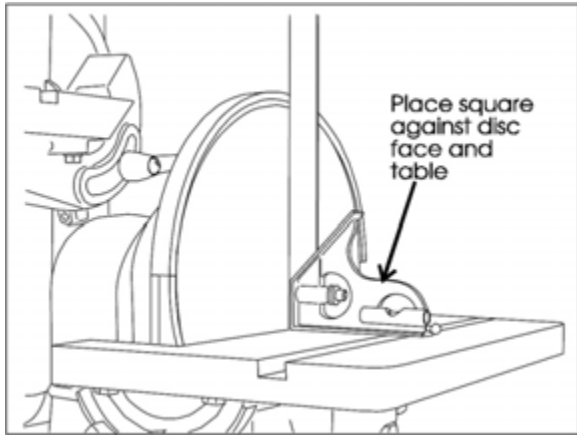

Figure 1: Using a square to check the disc table scale
3. Using a machinist's square against the table and disc, set the table at exactly 90° to the disc (See Figure 1).